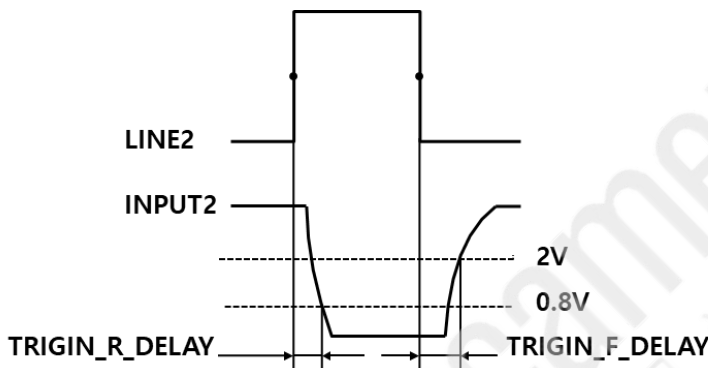

Figure 7-22 Parameter of Line2 input circuit (2.5GigE)
- Input rising time delay: $< 2\mu\text{s}$ (0°C to 45°C), parameter description as shown in Figure 7-22.
- Input falling time delay: $< 2\mu\text{s}$ (0°C to 45°C), parameter description as shown in Figure 7-22.